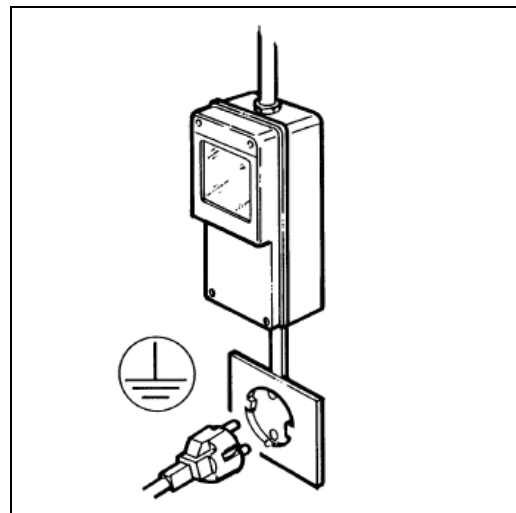

Fig. 8
- The machine's electrical safety is only guaranteed when it is connected to a suitable earth system, structured as provided by the national safety current regulations (fig.8). Therefore, the manufacturer cannot be held responsible for any damage due to failure of the grounding system of the machine.